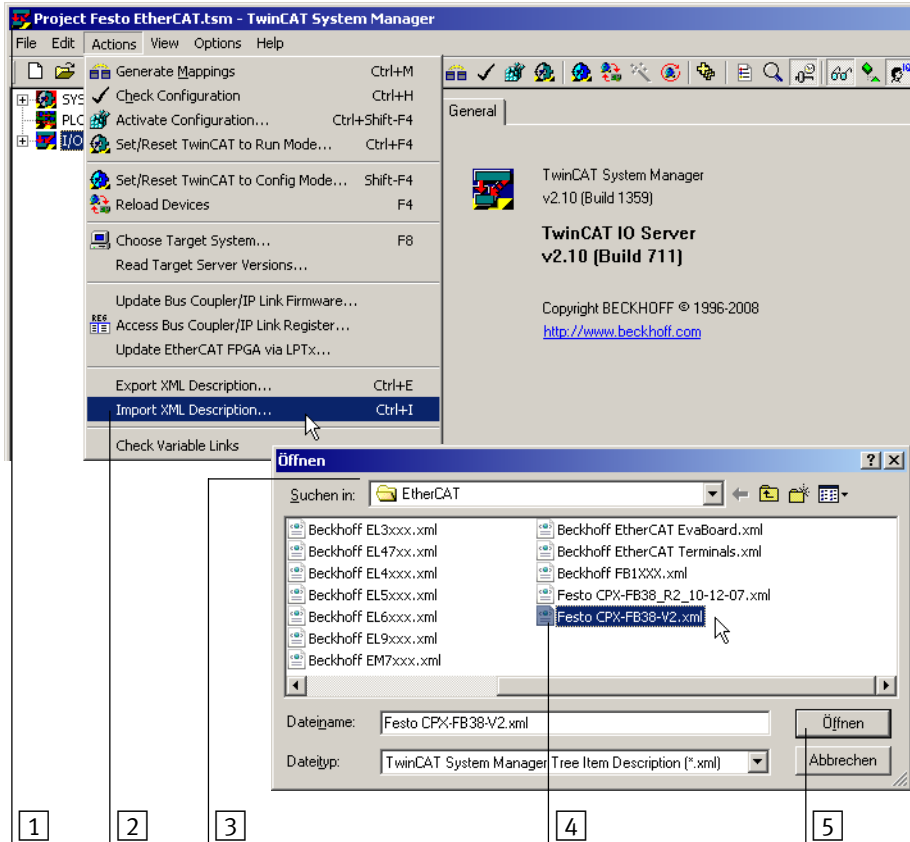

Fig. 2/5: Registering slave properties in the configuration program (importing XML file)
To ensure that TwinCAT uploads the configuration file, the subsequently described import of the XML file is required (see also Fig. 2/5).
1. Start the configuration program of your PLC, e.g. the Beckhoff TwinCAT System Manager ( **1** in Fig. 2/5).
- “Actions” > “Import XML Descriptions...” ( **2** in Fig. 2/5)